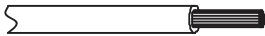

Fig. 17 —Stripping The Wire
2. Strip a suitable length of the insulation layer as shown in Fig. 17.